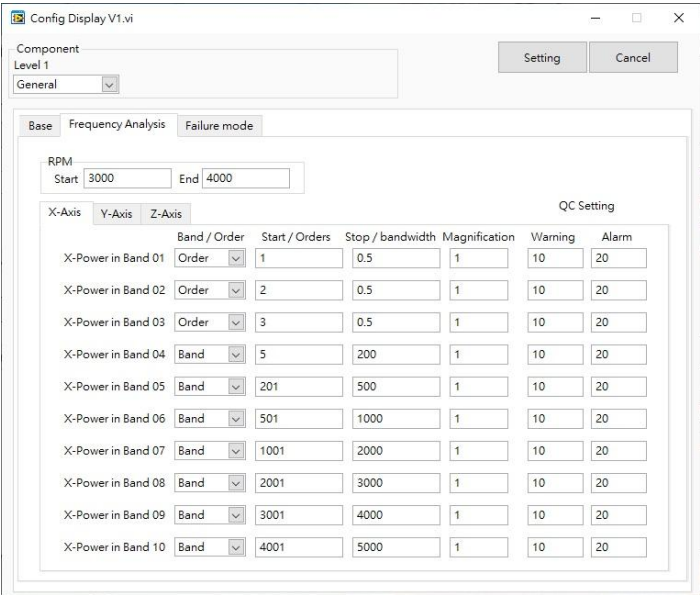
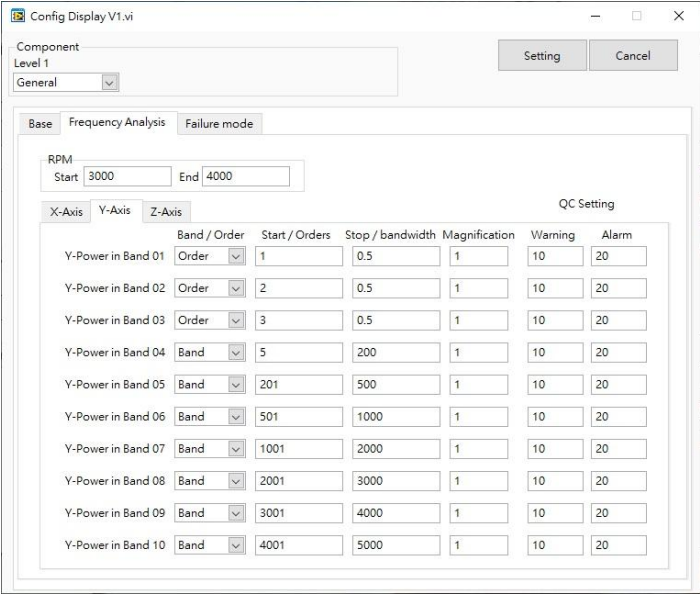
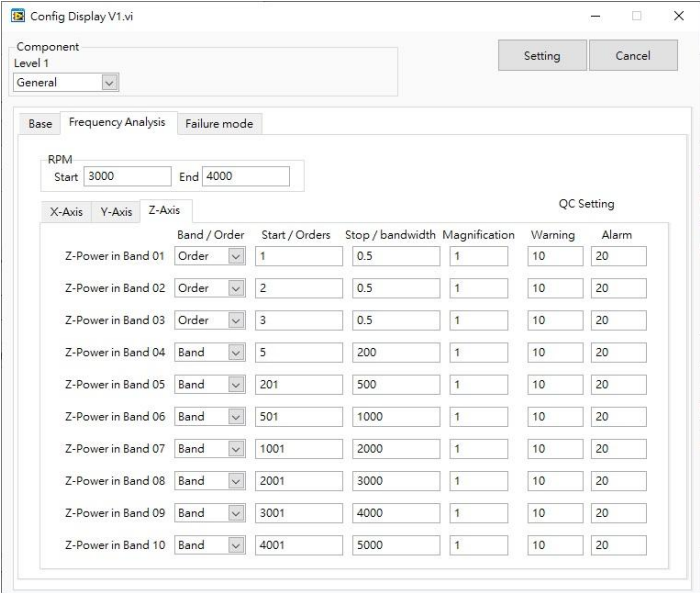

Figure2-22 Aurora Modbus Utility Frequency Analysis X-Axis Parameter Settings under General Mode
Figure2-23 Aurora Modbus Utility Frequency Analysis Y-Axis Parameter Settings under General Mode
Figure2-24 Aurora Modbus Utility Frequency Analysis Z-Axis Parameter Settings under General Mode
- RPM: Speed range of rotating machinery; speed range must be set to accurately judge damage energy. Readings are Start 3000, End 4000, as shown in Figure2-22, Figure2-23, and Figure2-24.
- Power in Band 01: First custom frequency band reading is Order 1, 0.5X order band, magnification factor 1, Warning 10, Alarm 20, as shown in Figure2-22, Figure2-23, Figure2-24.
- Power in Band 02: Second custom frequency band reading is Order 2, 0.5X order band, magnification factor 1, Warning 10, Alarm 20, as shown in Figure2-22, Figure2-23, Figure2-24.
- Power in Band 03: Third custom frequency band reading is Order 3, 0.5X order band, magnification factor 1, Warning 10, Alarm 20, as shown in Figure2-22, Figure2-23, Figure2-24.
- Power in Band 04: Fourth custom frequency band reading is Band 2 to 200Hz, magnification factor 1, Warning 10, Alarm 20, as shown in Figure2-22, Figure2-23, Figure2-24.
- Power in Band 05: Fifth custom frequency band reading is Band 201 to 500Hz, magnification factor 1, Warning 10, Alarm 20, as shown in Figure2-22, Figure2-23, Figure2-24.
- Power in Band 06: Sixth custom frequency band reading is Band 501 to 1000Hz, magnification factor 1, Warning 10, Alarm 20, as shown in Figure2-22, Figure2-23, Figure2-24.
- Power in Band 07: Seventh custom frequency band reading is Band 1001 to 2000Hz, magnification factor 1, Warning 10, Alarm 20, as shown in Figure2-22, Figure2-23, Figure2-24.
- Power in Band 08: Eighth custom frequency band reading is Band 2001 to 3000Hz, magnification factor 1, Warning 10, Alarm 20, as shown in Figure2-22, Figure2-23, Figure2-24.
as shown in Figure2-22, Figure2-23, Figure2-24.
- Power in Band 10: Tenth custom frequency band reading is Band 4001 to 5000Hz, magnification factor 1, Warning 10, Alarm 20, as shown in Figure2-22, Figure2-23, Figure2-24.